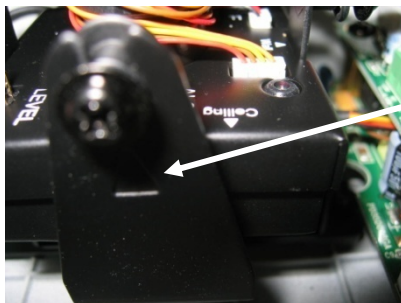

Figure 3-3
- c. Aim “Ceiling” Mark to “▲” mark on camera lead frame. See figure 3-3.